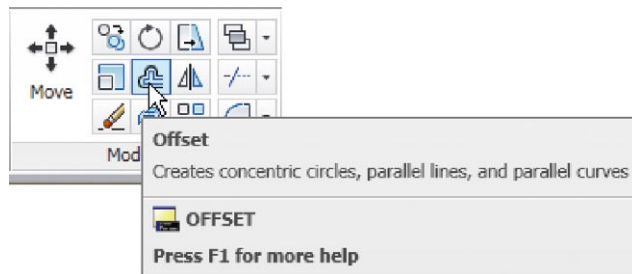
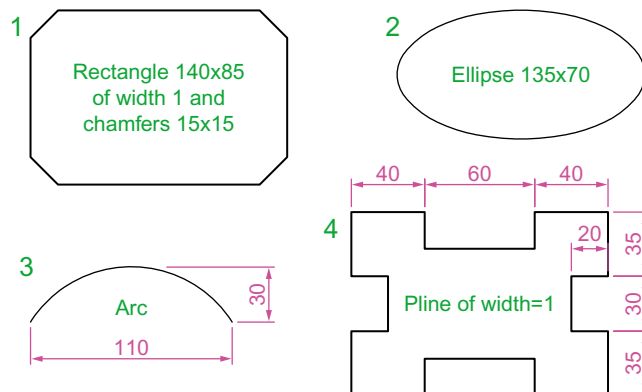
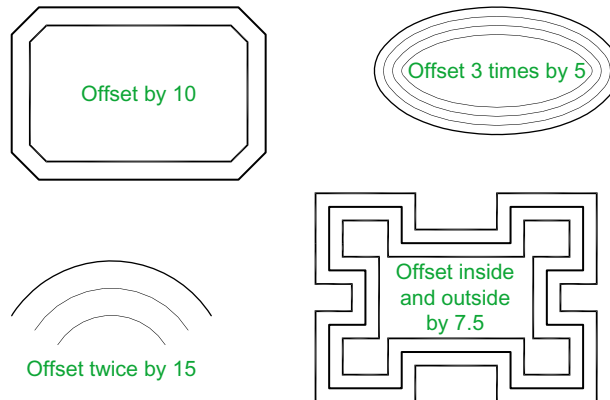

Fig. 5.12 The **Offset** tool from the **Home/Modify** panel
Fig. 5.13 Examples – **Offset** – outlines
Fig. 5.14 Examples – Offset
### Examples – Offset (Fig. 5.14)
1. Construct the four outlines shown in Fig. 5.13.
2. Call the **Offset** tool – *left-click* on its tool icon in the **Home/Modify** panel (Fig. 5.12), *pick* the tool name in the **Modify** drop-down menu or *enter* **o** or **offset** at the command line. The command line shows (Fig. 5.13):
3. Repeat for drawings 2, 3 and 4 in Fig. 5.12 as shown in Fig. 5.14.